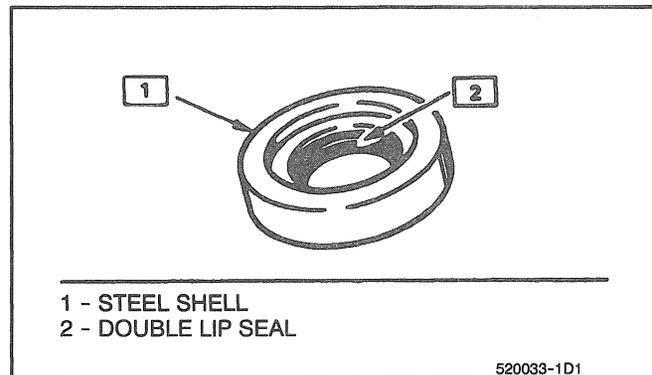
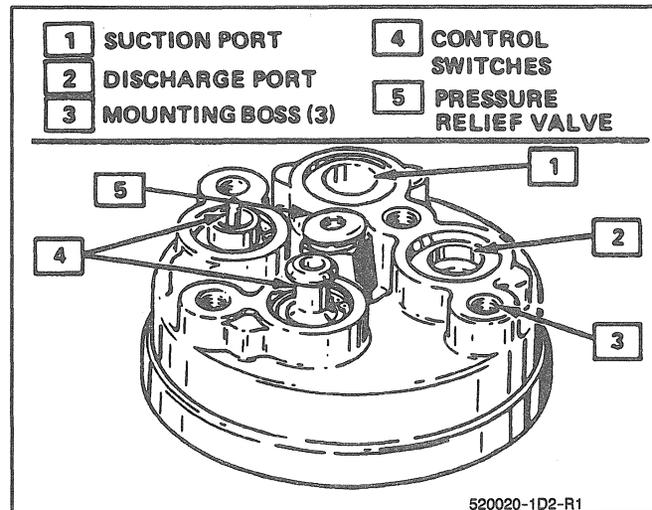

Fig. 18 Compressor Shaft Seal
Fig. 19 Compressor — Rear Head
When replacing the shaft seal assembly (Fig. 18), pressure relief valve or control switches (Fig. 19), it will be necessary to recover the refrigerant. Other than clutch repair procedures, the same holds true for any disassembly of the compressor.
**NOTICE:** Seals should not be re-used. Always use a new specification service seal on rebuild (Fig. 18). Be sure that the seal to be installed is not scratched or damaged in anyway. Make sure that the seal seat and seal are free of lint and dirt that could damage the seal surface or prevent sealing.
2. Remove old pressure relief valve (Fig. 19).